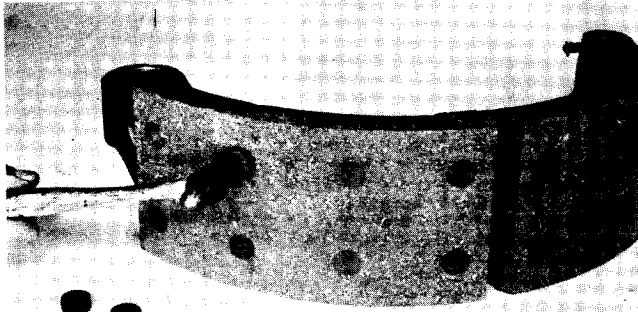

FIG. 140
2. Tap brake lining plugs into brake lining bolt holes (Fig. 140).